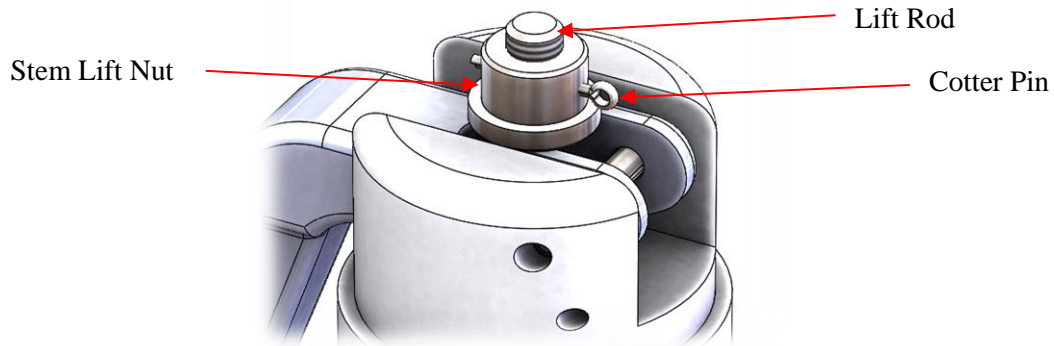

Figure 17: Upper Portion of Lift Lever Cap
2. Bend straight and pull out the cotter pin. See Figure 17. Set it aside.
3. Unscrew and remove the stem lift nut. See Figure 17.